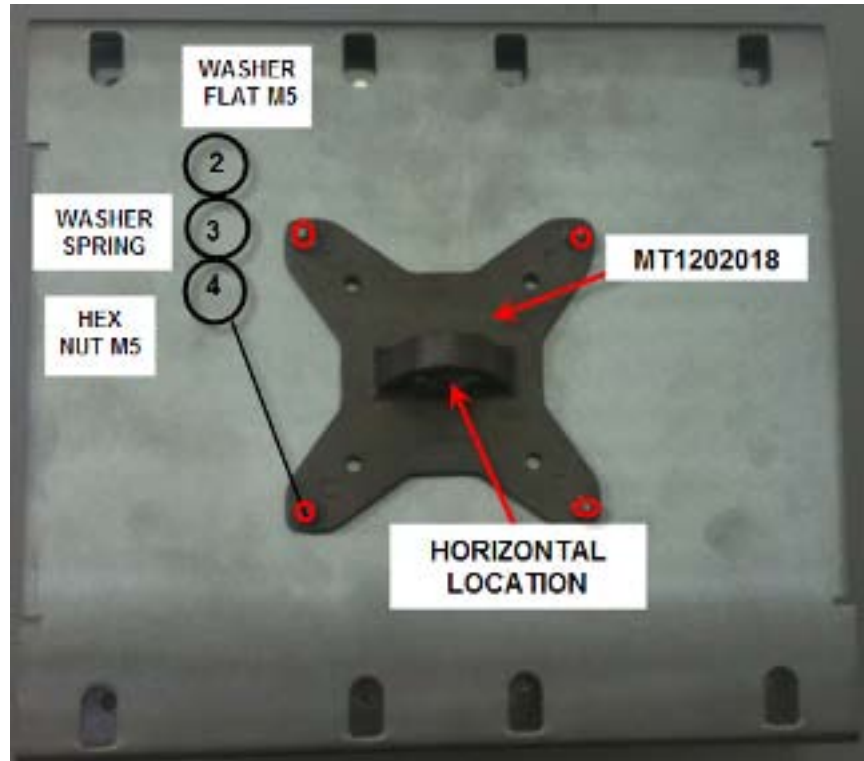

Figure 3.10. Adaptor Plate Mounted on Baseplate
3. Position the adaptor plate (MT-120018) on the baseplate in the position shown in Figure 3.10, "Adaptor Plate Mounted on Baseplate".